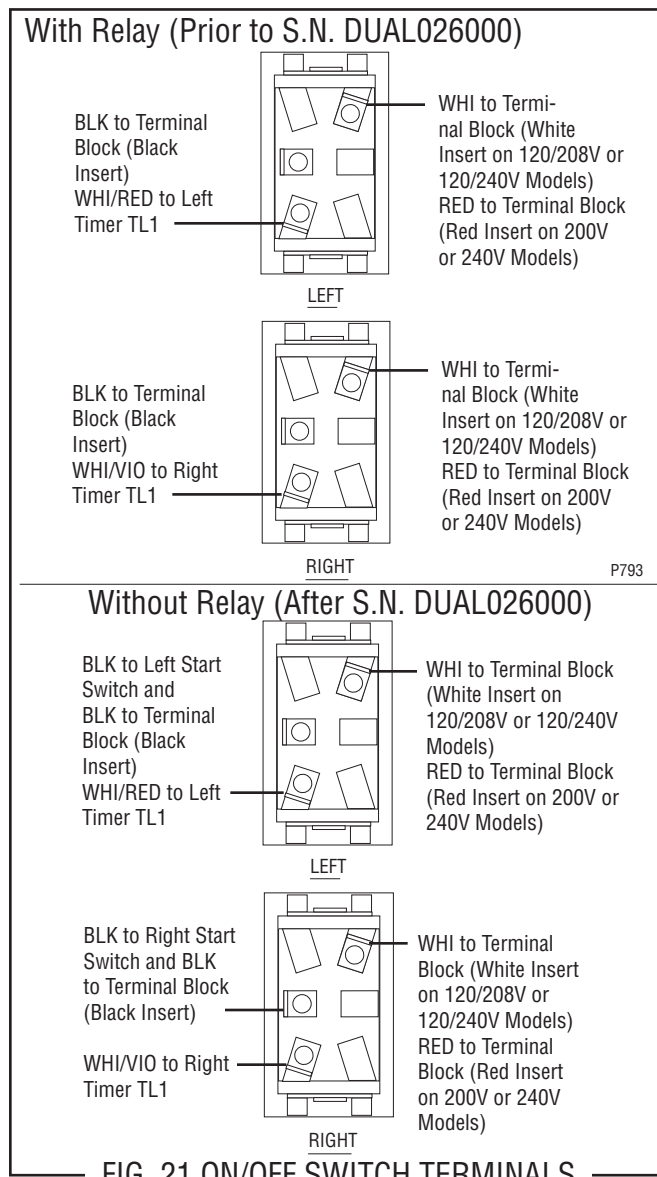

FIG. 21 ON/OFF SWITCH TERMINALS
4. Refer to Fig. 21 when reconnecting the wires.